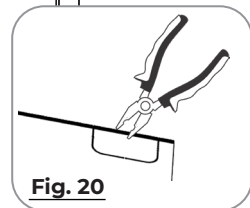

Fig. 20
2. **Optional:** If the PC Conduit Bracket or Surface Conduit Bracket is installed, use pliers to remove the appropriate knockout located at the top of the cover. (Fig. 20)